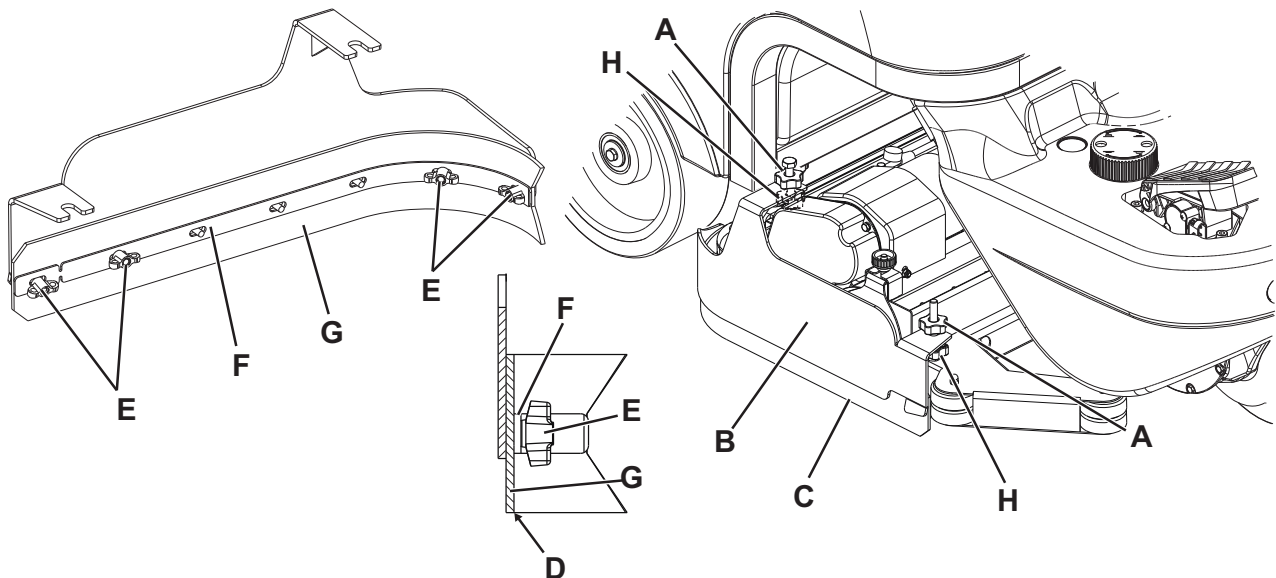

Figure 9
2. Turn the ignition key (58) to "0".
3. On both sides of the machine, unscrew the knobs (A, Fig. 9) and remove the side skirt assemblies (B).
5. Check that the skirt lower edge (C):
- has the inner corner (D) that is not worn;